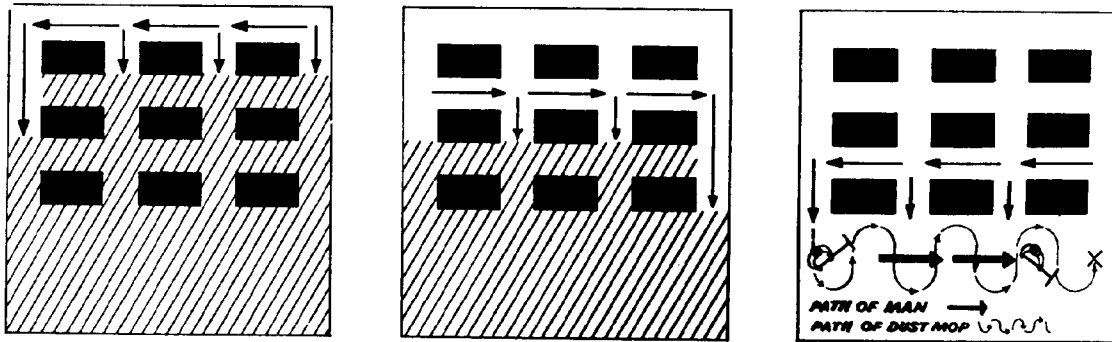

Figure 28. Mop Sweeping an Office.
(1) Mop-sweep floor as described in paragraph 6.2.3, fig. 28.
(2) As turns are made around room, shake dirt into dustbox. (If V-type mop is used, shake into pile near dustbox.)
(3) Remove with putty knife all gum or dirt sticking to floor.
(4) Gather sweepings into dustpan with counter brush and empty into dustbox.
(5) Collect sweeping tools.
(6) There should be no litter on floor, behind radiators or in corners and room should have a well-kept appearance.